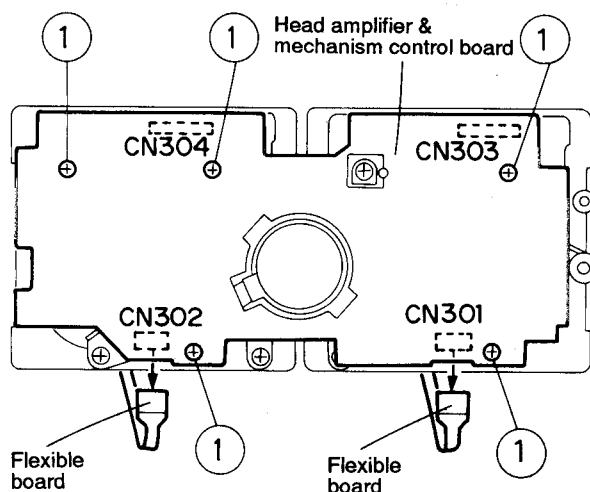

Fig.5-27
**■ Removing the Head Amp. & Mechanism Control P.C. Board (See Fig. 5-27)**
2. After turning over the cassette mechanism assembly, remove the five screws ① retaining the head amp. & mechanism control P.C. board.